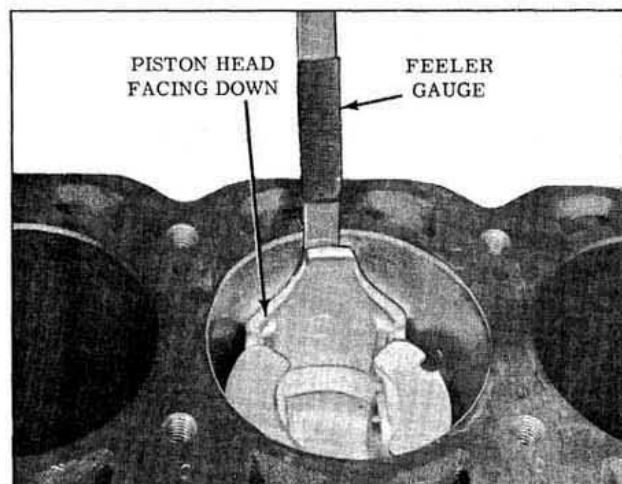

Fig. 3-29 Checking Piston Clearance
1. Place a strip of .0015" feeler gauge against the upper side of the bore, at 90° to the normal piston pin location. Attach scale J-5515 to feeler gauge. (Fig. 3-29)